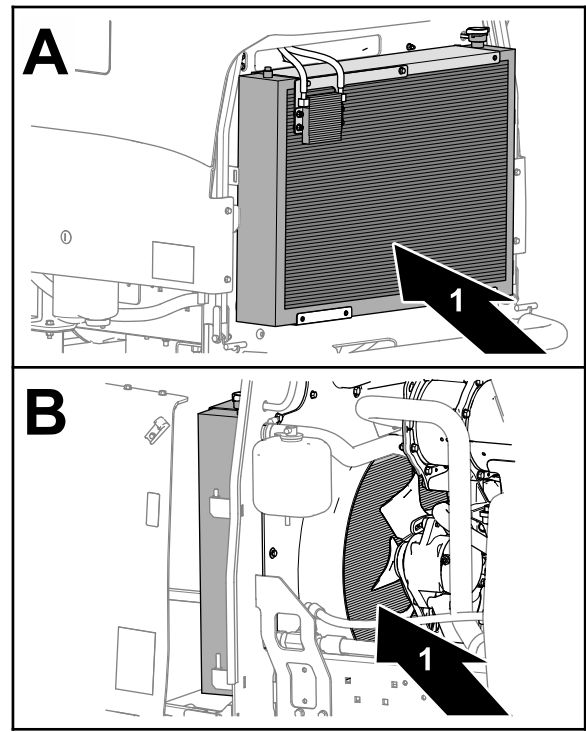

Figure 67
7. Thoroughly clean both sides of the radiator and oil cooler with compressed air (Figure 67).